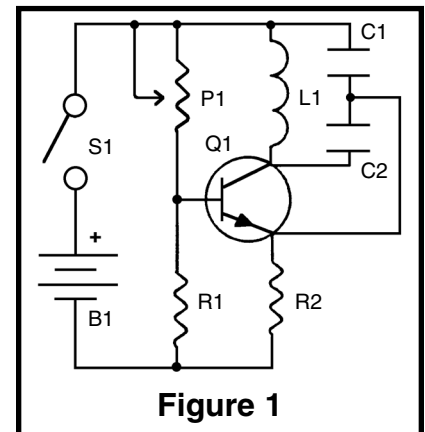

Figure 1
Figure 1 shows the basic circuit of the oscillator. When the switch SW1 is closed, a current will flow in the P1-R1 circuit. This will turn on transistor Q1 and send a current into the inductor-capacitor circuit (LC circuit). The inductor is made by winding a 5" diameter coil with 30 turns of copper wire. The LC circuit is the heart of the oscillator. Every LC circuit has its own resonance frequency. The resonance frequency of this circuit is in the AM radio band.
8. If part of the energy in the LC circuit in Figure 1 is fed to the emitter of Q1, the circuit will _____.